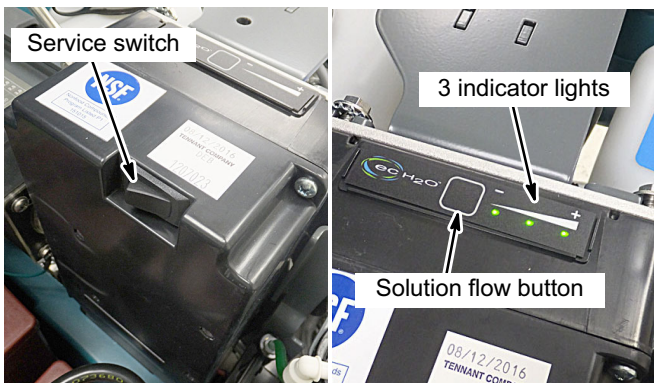

FIG. 144
- b. Press and hold the service switch, located on the ec-H₂O module, for 10 seconds. After releasing service switch, the three solution flow indicator lights will begin to (ripple) move back and forth (Figure 144).
- c. Within 5 seconds after releasing the service switch, while the three indicator lights are moving back and forth, quickly press and release the solution flow button located on ec-H₂O module (Figure 144). The three indicator lights will then blink three times to indicate timer has been reset. Repeat process if the three indicator lights do not blink three times.